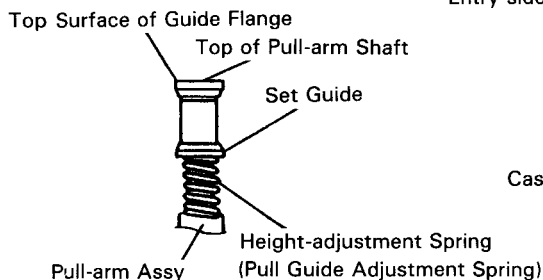

Fig. 3-1
3. Turn the guide flange on the pull-arm assy until the top surface of the flange is aligned with the top of the pull-arm shaft. (Refer to Fig. 3-1.)